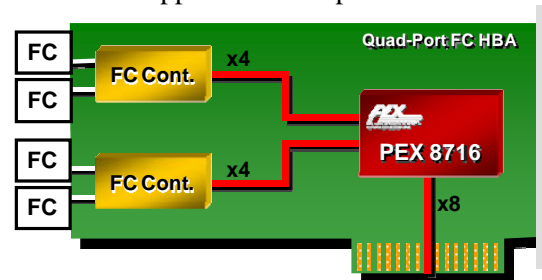

Figure 8. Quad-Port Fibre-Channel HBA
The PEX 8716 is well suited for Host Bus Adapter cards (HBAs) as well. Figure 8 shows a Quad-Port Fibre Channel HBA utilizing the PEX 8716 to allow connectivity to two Fibre Channel (FC) controllers. The PEX 8716 uses a x8 link on the upstream port and two x4 downstream links to fan-out to the FC controllers. Each FC controller supports two FC ports.